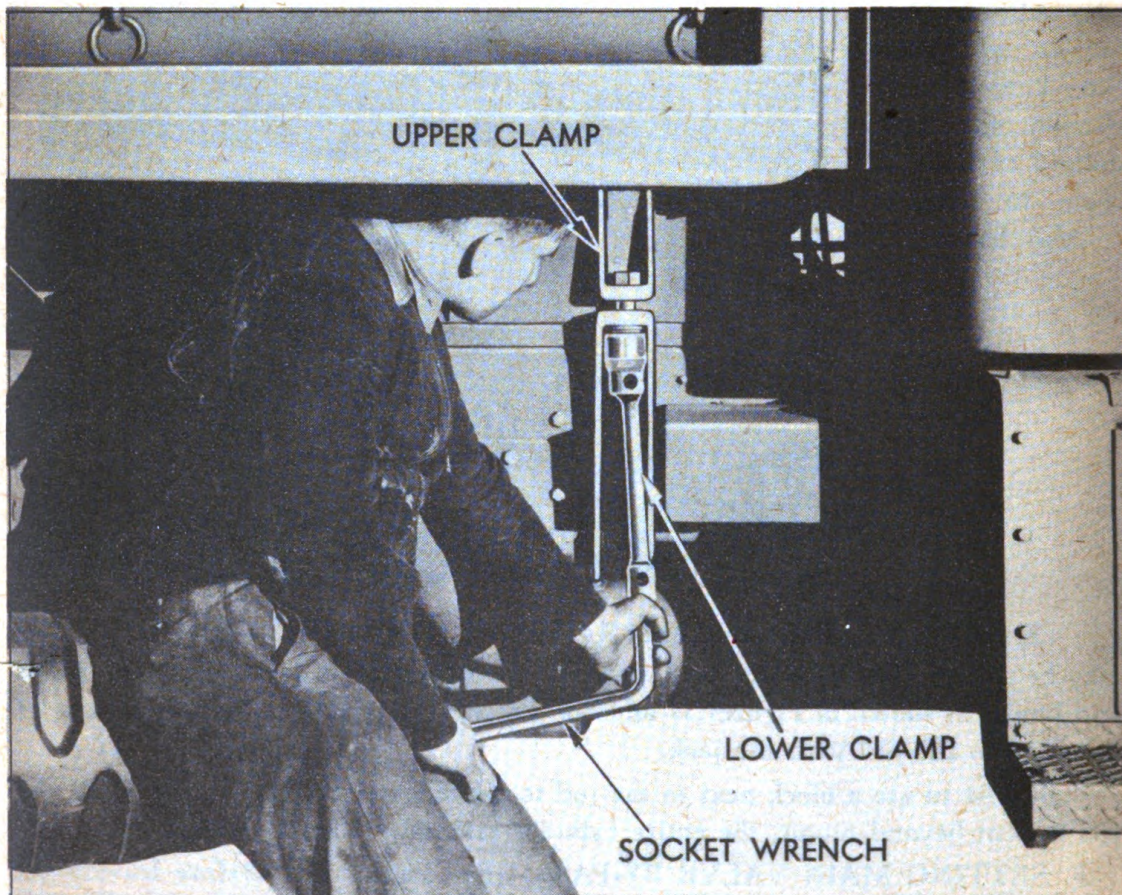

Figure 39. Tightening A Hold-Down Clamp Securing Body to Truck
c. HOLD-DOWN BRACKETS are provided on both sides to hold the body to the chassis frame. These brackets must be kept absolutely tight at all times. At regular intervals tighten the bolts holding the brackets to the chassis frame and also the bolts holding the brackets together as in Figure 39.
(1) OIL BY-PASSING IN PUMP